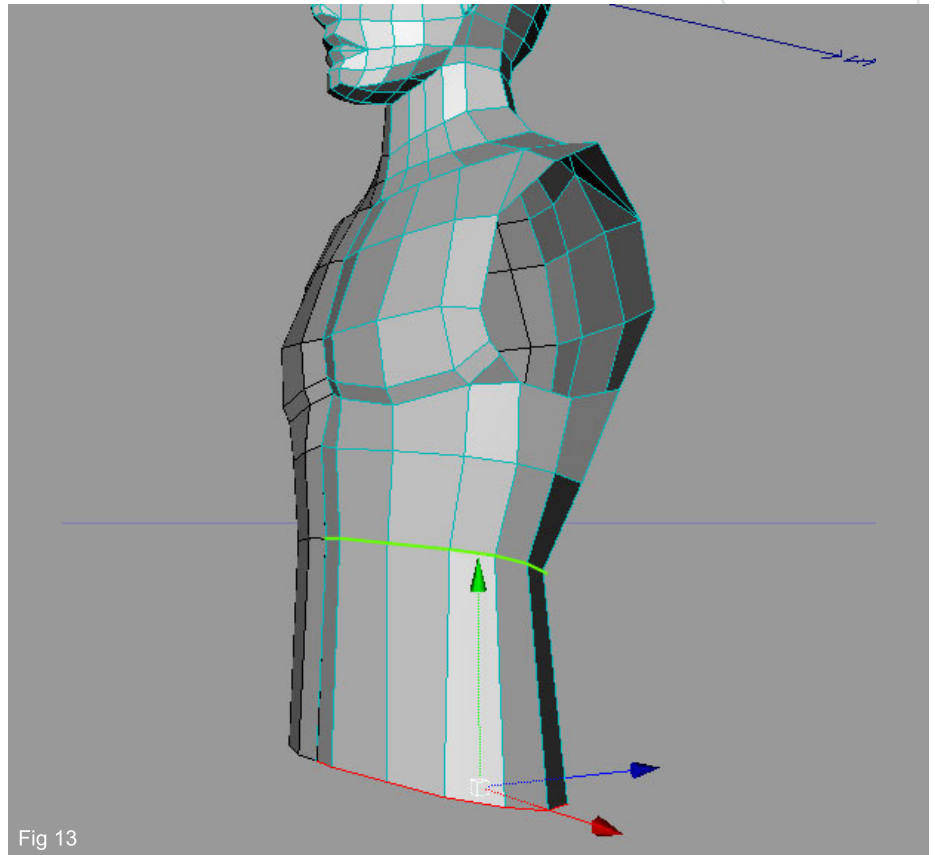

Fig 13
13. Select now the bottom row edges and extrude them once more (Fig13).